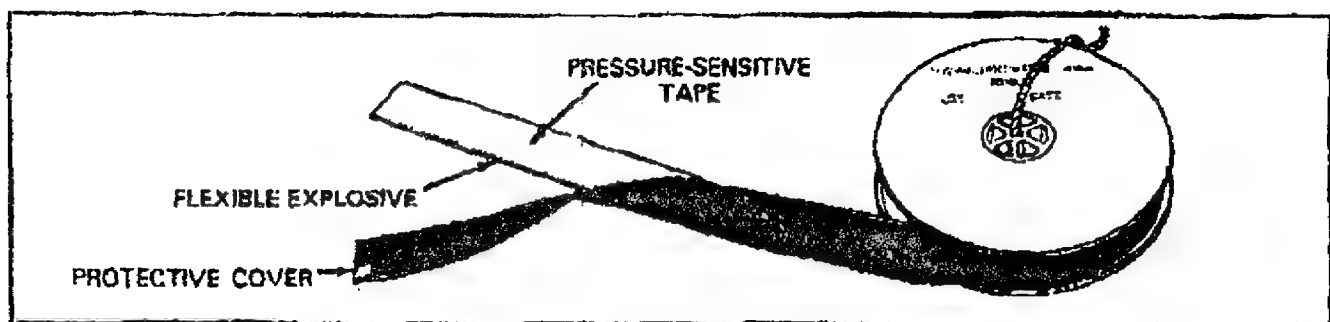

Figure 85. Charge, Demolition Roll, M186.
**Charge, Demolition Roll, M186.** The demolition roll charge (Figure 85) is made of the same flexible explosive as the M118 flexible sheets, and it is used for the same purposes. In its roll form, there are 50 feet of Flex-X on a plastic spool. The spool is olive drab with yellow markings. The roll is packed one roll with 15 blasting-cap holders to a canvas bag, with three bags per wire-bound wooden box.